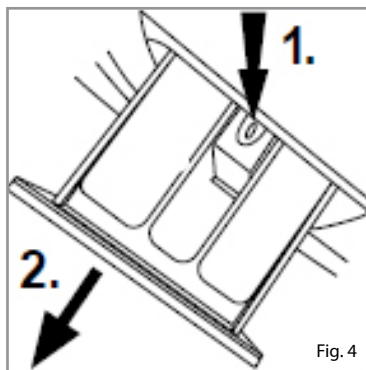

Fig. 4
- To remove the drawer, press down on the blue syphon lid inside the drawer and remove from the housing, as shown in figure 4.